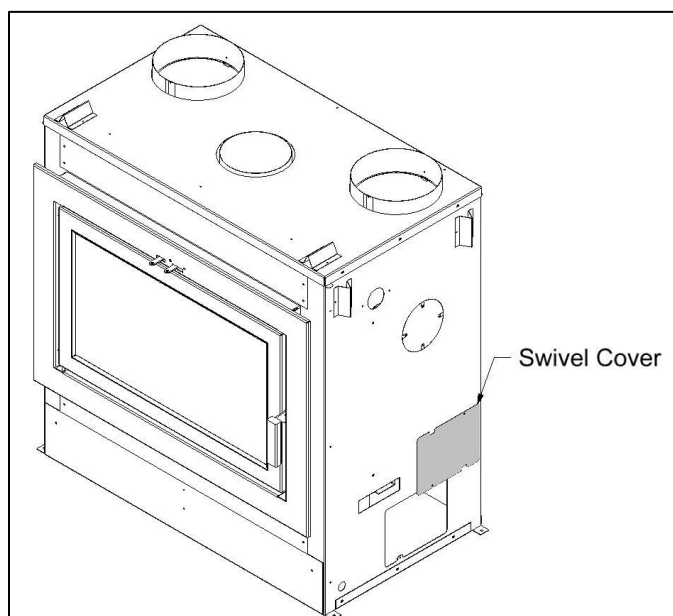

Figure 3-12: Intake Swivel Cover Kept Open for Clean Face Installations
6. Secure the Intake Swivel Covers on the bottom sides of the unit to the **open** position (Figure 3-12).
- The intake swivel covers at the bottom sides must remain open for all Clean Face installations. Refer to Figure 3-12.